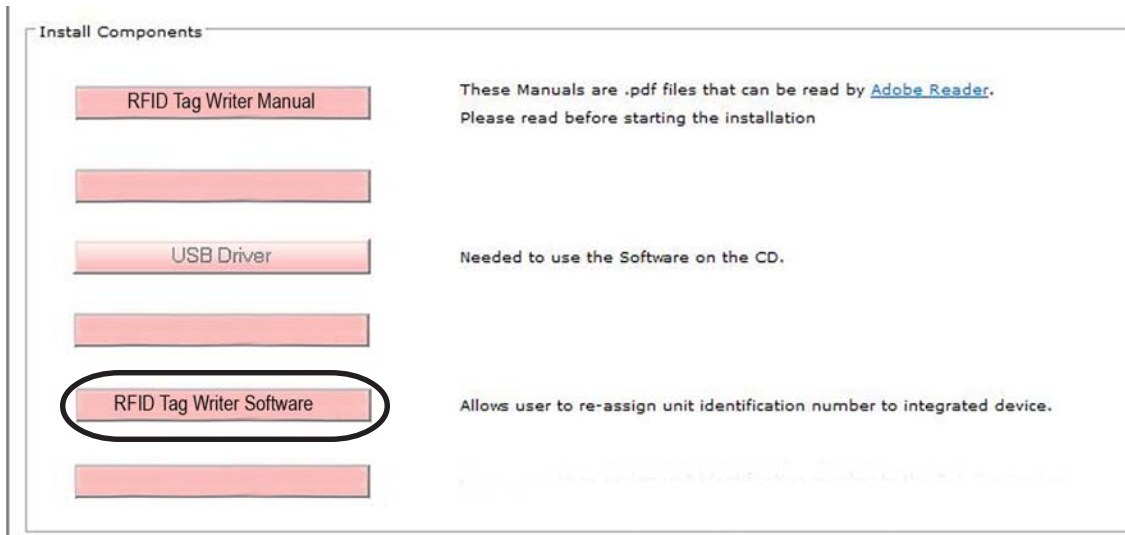

FIGURE 4
6. Connect the RFID Tag Writer Computer Interface to your computer using a USB 2.0 cable. Use of a peripheral powered USB multi-port is not recommended. The GREEN Light on the RFID Tag Writer Computer Interface will turn on. See FIGURE 4. If the GREEN light does not turn on, there is a problem with the interface. Remove the interface from service and tag for repair or replacement.
1. Select "SEMS II RFID Tag Writer" to install the Tag Writer Software for the SEMS II Distress Alarm. Follow the instructions on the screen. You may need to close all other applications to install this program. See FIGURE 4.